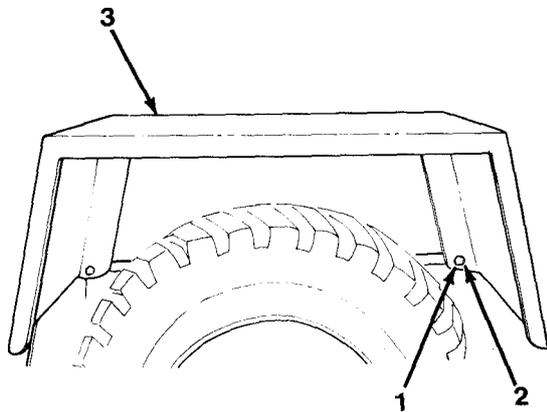

Figure 14-1
1. Support fender (3, Figure 14-1).
2. Remove six nuts (1) and washers (2) from studs on frame.